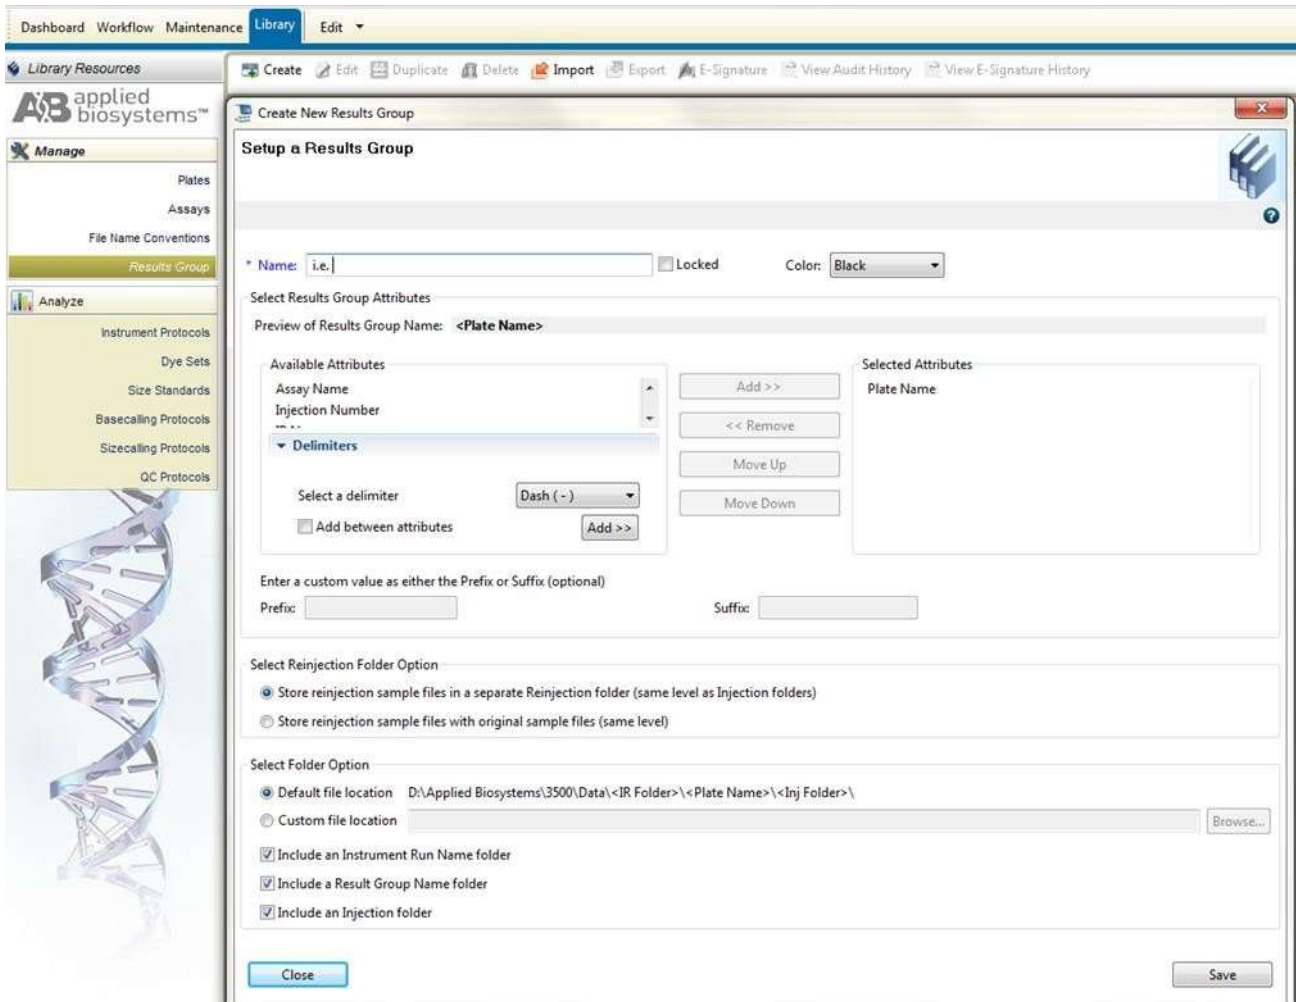

Figure 9. Screenshot for the “Create New Result Group” window on Applied Biosystems 3500 Data Collection software
- c) Select “*Create*” (Figure 9)